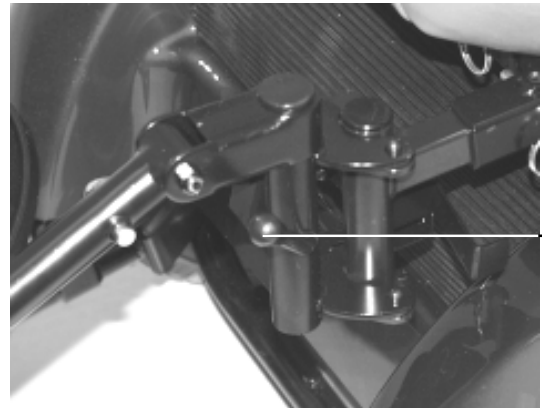

Figure 19. Elevating Leg Rests
1. Press the release lever. See figure 19.